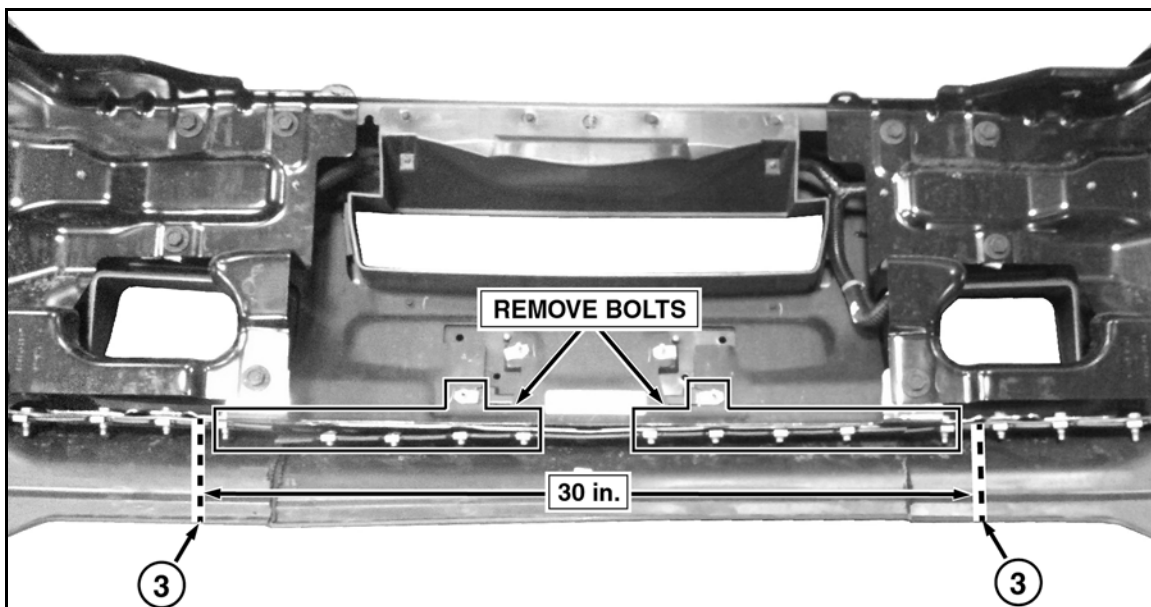

Figure 5
- C. Cut #3 is 30 in. wide on center. Cut straight up the lower plastic valance, then cut into only the metal that that lower valance is bolted to. Then remove the 12 bolts holding the plastic portion of the bumper into integrated metal. (See Figure 5.)